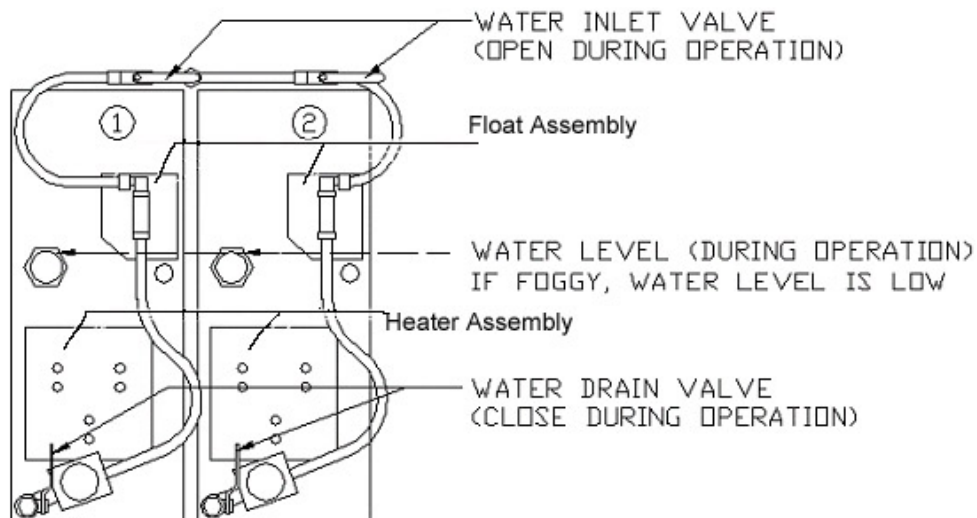

Figure 6
2. After the initial installation, the heating elements and water feeder assemblies should be removed and inspected for excessive calcium build up every 3 months. (figure 6) If excessive calcium build up is detected, spray the affected areas with CLR or similar type cleaner and scrub with a soft bristled non-metallic brush.